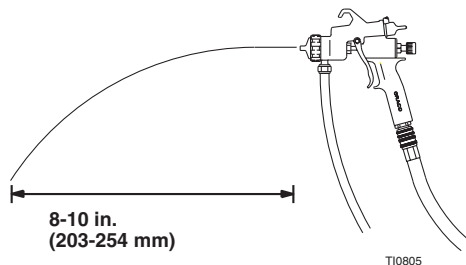

FIG. 3
- 2 For remote pressure pot, hold gun parallel to floor and adjust fluid pressure at 8-10 inch (2093 to 254 mm) fluid stream. Fig. 3.